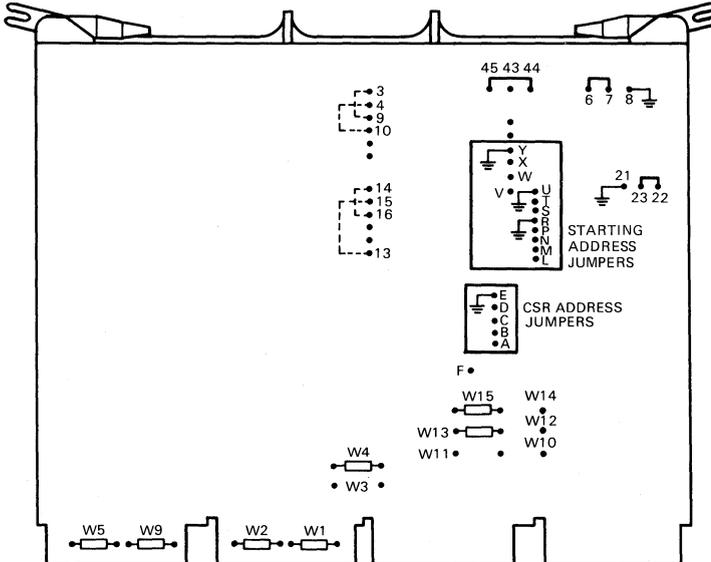

Figure 2-6 MSV11-P Module Layout
The MSV11-P memory module is configured by means of jumpers and wire-wrap pins. The -PK and -PL models have the same factory configuration. Figure 2-6 shows the location of jumpers and wire-wrap pins and Table 2-17 describes their functions.
**2.9.1.1 CSR Address** – Figure 2-6 shows the CSR address jumpers on the MSV11-P. Table 2-18 lists the CSR address and corresponding jumper configurations for each memory module added to the system. The table is applicable to both the -PK and the -PL models.